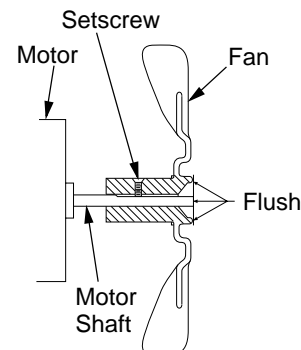

Figure 8 - Fan Cross Section and Setscrew Location
6. Replace fan on motor shaft. Place fan hub flush with end of motor shaft (see Figure 8).